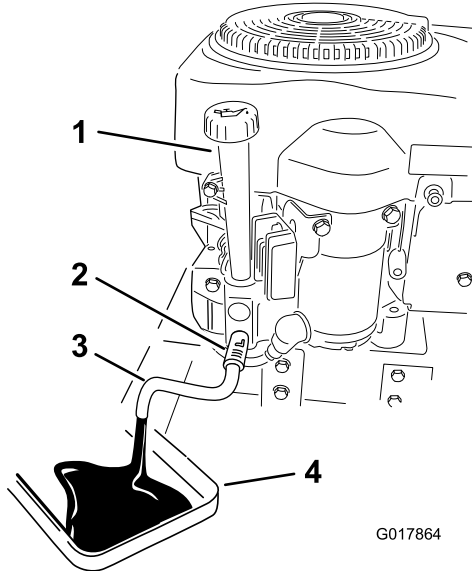

Figure 31
4. Clean the area around the drain valve and on the machine frame. Locate the oil drain hose and slide it over the drain valve (Figure 31).
6. Place a pan underneath the machine directly below the drain hose as shown in (Figure 31).
7. Turn the drain valve 1/4 counter clockwise to open and allow the oil to drain. Remove the oil fill cap/dipstick (Figure 31).
10. Slowly pour approximately 80% of the specified amount of oil into the fill hole (Figure 31). Check the oil level; refer to Checking the Oil Level.